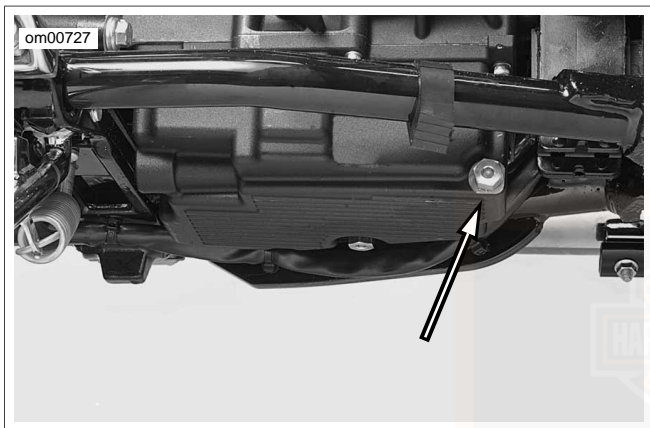

Figure 34. Engine Oil Drain Plug (oil pan under transmission)
3. See Figure 34. Remove the engine oil drain plug with o-ring . Allow oil to completely drain into a suitable container.
6. See Figure 34. Install oil tank drain plug.